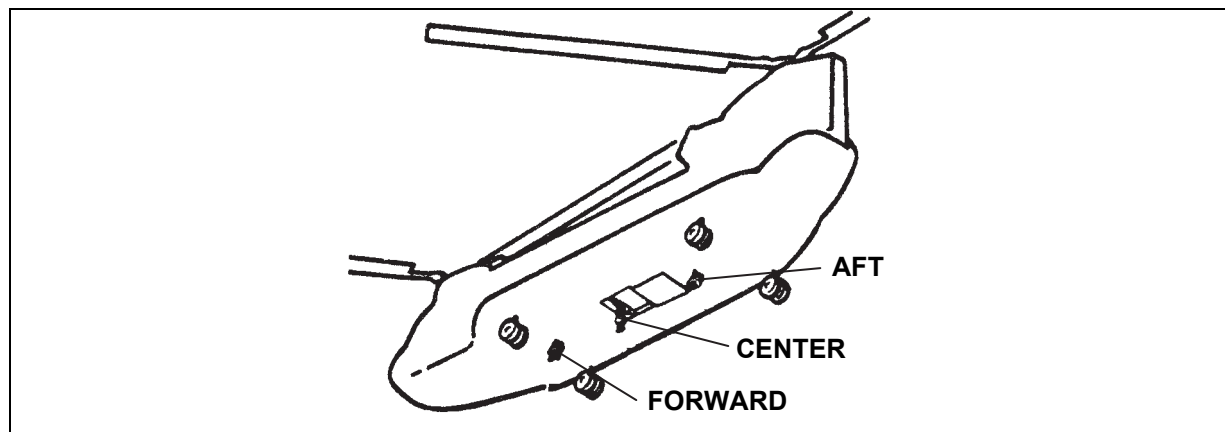

Figure 2-13. CH-47 Cargo Hook Locations
- The H-47's center cargo hook and two additional cargo hooks (figure 2-13) increase sling load capacity and stability. The two additional cargo hooks, designated as the forward and aft cargo hooks, are bolted to the bottom of the aircraft about 6 1/2 feet fore and aft of the center (main) cargo hook.